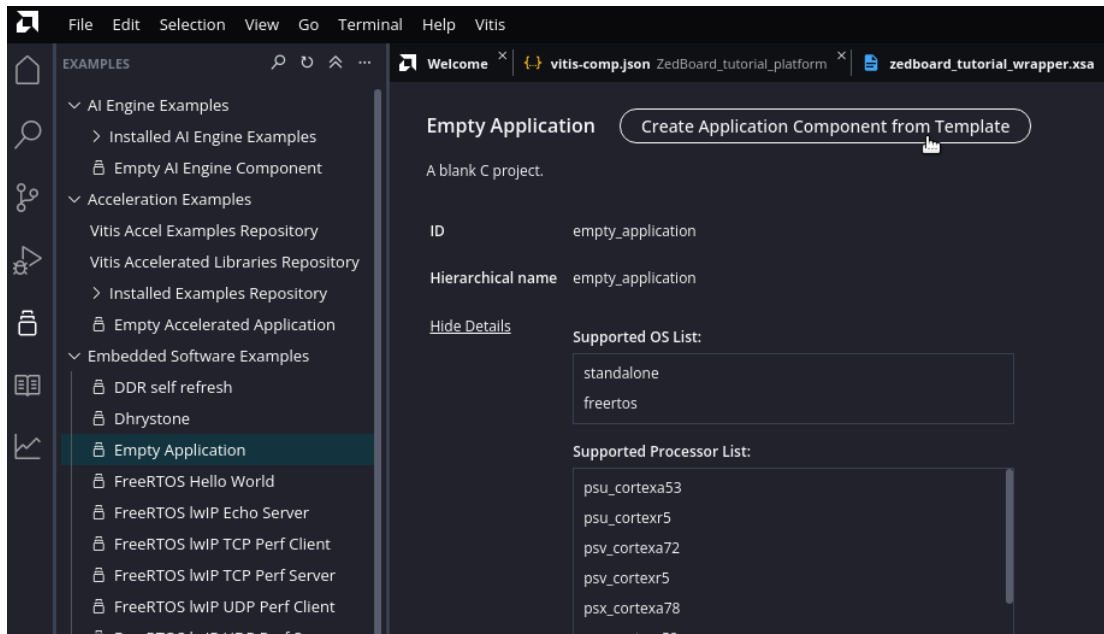

Figure 21: The “Examples” tab and the window for creating an empty application.
- Once the platform has been created, we can create an empty application to start development in. To find example templates of projects, including one for an empty application, go to the bar on the left side of the screen and click the icon that looks like a three-tiered cake. This will open the “Examples” tab. Scroll down to “Embedded Software Examples” and select the “Empty Application” template. Click “Create Application Component from Template” on the window that appears as shown in Figure 21.